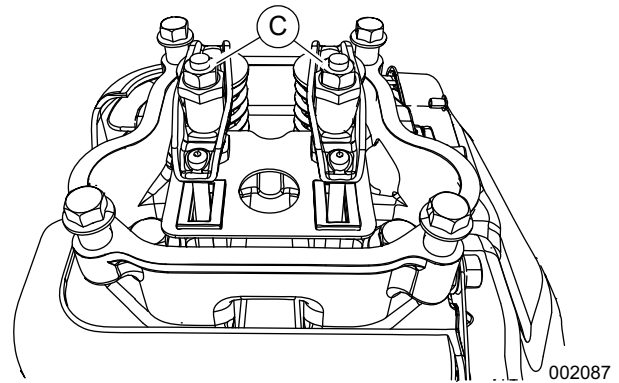

Figure 6-4. Rocker Arms, Pivot Ball Studs, Push Rods, and Push Rod Plate
3. See Figure 6-4. Loosen rocker arm jam nuts (C) on the pivot ball studs. Loosen pivot ball studs. Remove the two pivot ball studs, rocker arms, and jam nuts.